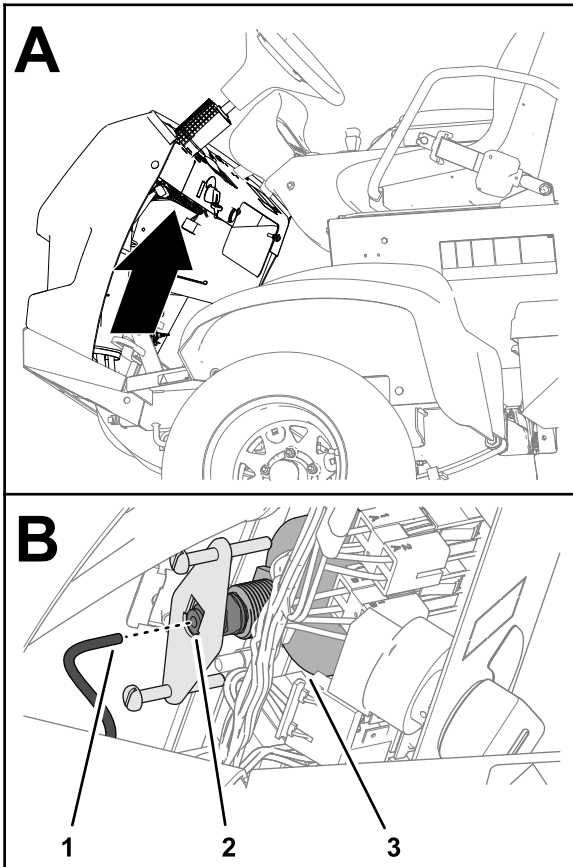

Figure 128
5. Remove the tube from the back of the pressure gauge and place the end of the tube into a container (Figure 128).